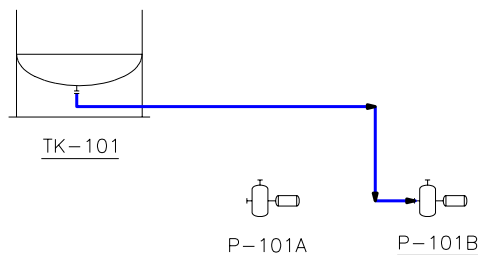

Figure 2-45 Line connecting the vessel and the pump
2. Connect the line to the horizontal nozzle of the pump tagged **P-101B**. The line created should be similar to the one shown in Figure 2-45. In this tutorial, this line is referred as inlet line of the pump.